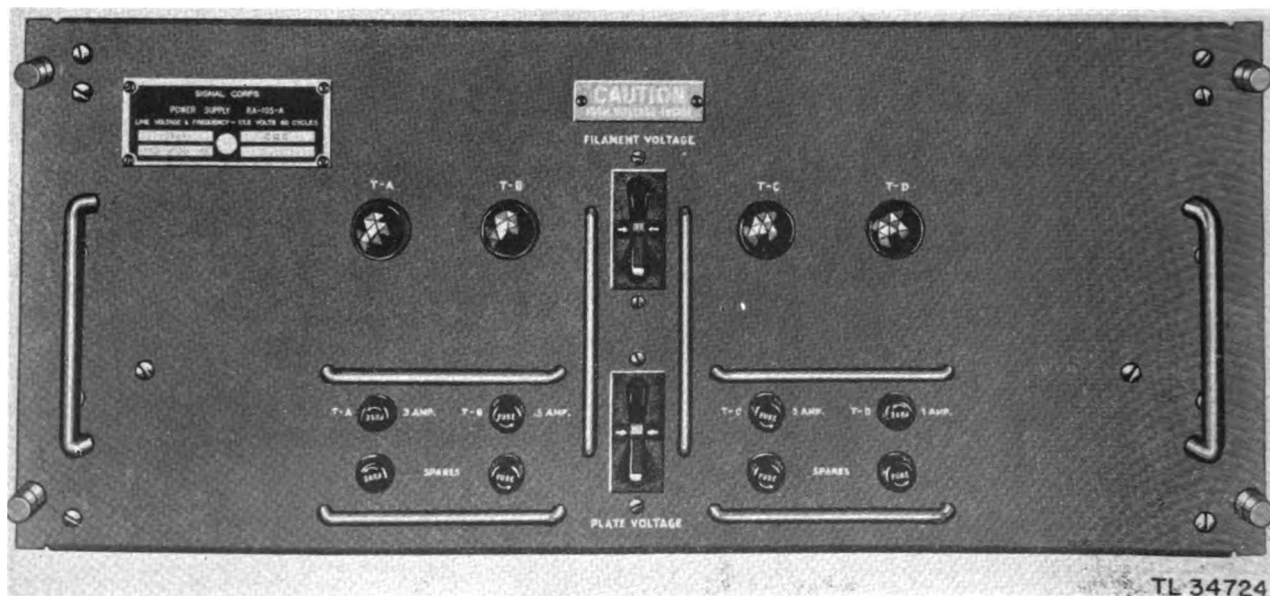

Figure 18. Power Supply RA-105-A.
23. Power Supply RA-105-A (fig. 18)